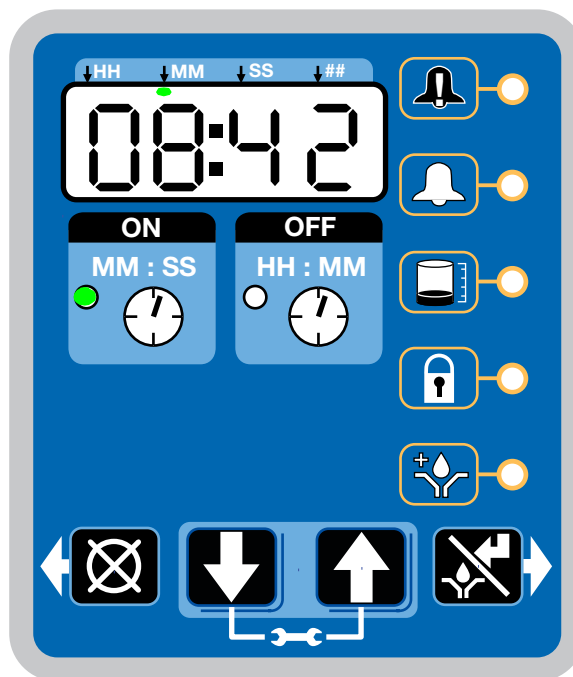

FIG. 35
- When the OFF Time count reaches zero, the G3 Automatic Lubrication Pump turns the pump on and it runs for the programmed ON Time cycle (FIG. 35).
- The example shown in FIG. 35 shows an ON Time of 8 minutes and 42 seconds before the lubrication cycle ends.